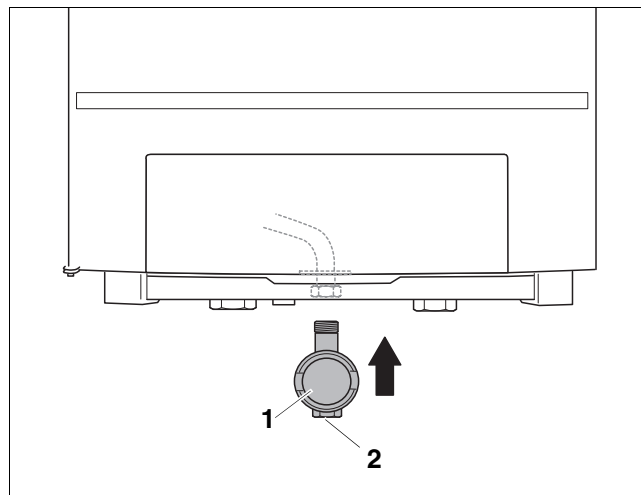

fig. 4 Making the gas connection
- Install the gas valve (fig. 4, [1]) onto the gas pipe in the boiler.
- Connect the main gas supply to the gas isolating valve (fig. 4, [2]) free of stress.